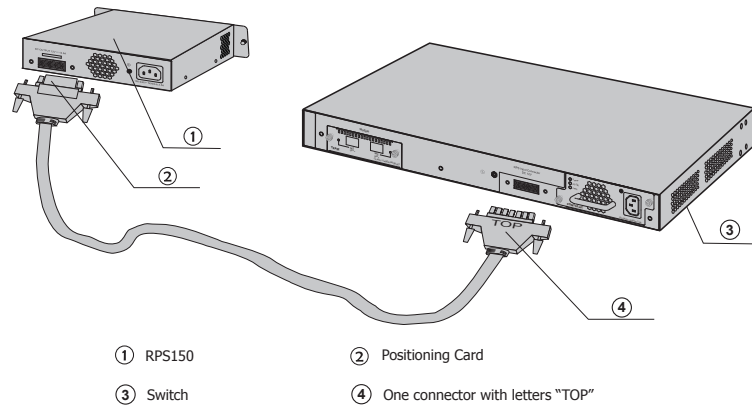

Figure 5-5 Power on via RPS150
3. Connect the RPS150 and the switch with DC power cord, as illustrated in Figure 5-5. One end of the DC power cord is marked by the letters "TOP" and the other end has a positioning card attached to it. Plug the end with the letters "TOP" into the input socket of the switch with "TOP" facing up and the other end with positioning card into the DC output socket of the RPS150 with the positioning card facing up.